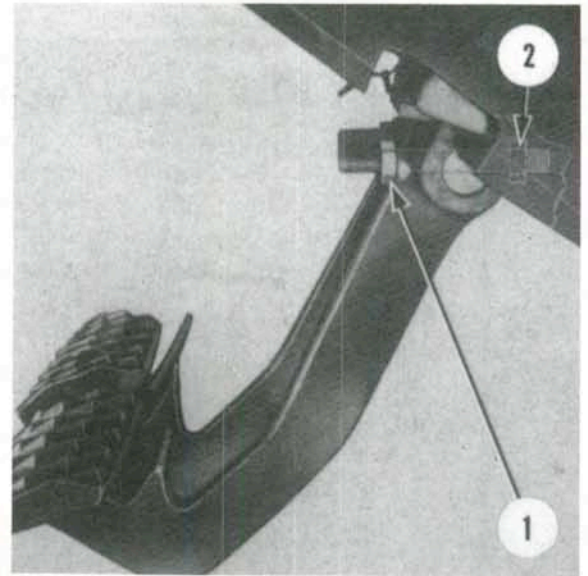

Fig. 247—Model TW-35 brake pedal adjustment points.
Fig. 247) and locknuts (2) on both pedals. Adjusting one pedal at a time, tighten adjusting nut until pedal just begins to move. Adjustment is correct when corner of gage can be moved with a heavy drag without depressing the pedal. When adjustment is correct, tighten locknut and repeat adjustment procedure for other pedal.